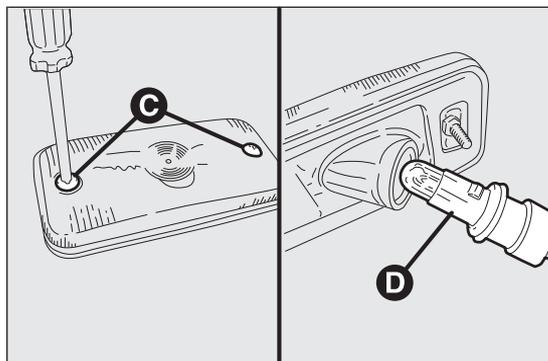

fig. 207
- undo the two fixing screws C fig. 207 and remove the light cluster;